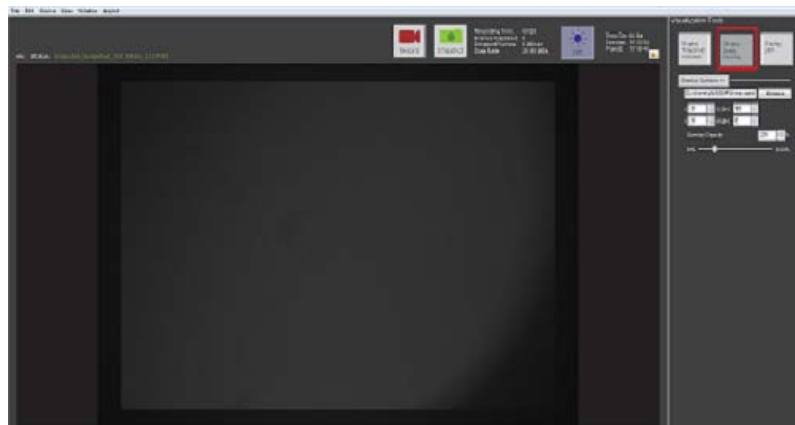

Fig 7-24. Static overlay, displayed on top of the field of view
- Static Overlay enables simultaneous co-display of the live imaging stream along with a static image. This tool adjusts the nVista system so that the FOV from a previous imaging session can be recaptured. A file browser window will appear for the selection of the desired static image file, which should be saved in 16-bit grayscale TIF or HDF5 format. This is shown in Fig 7-24.